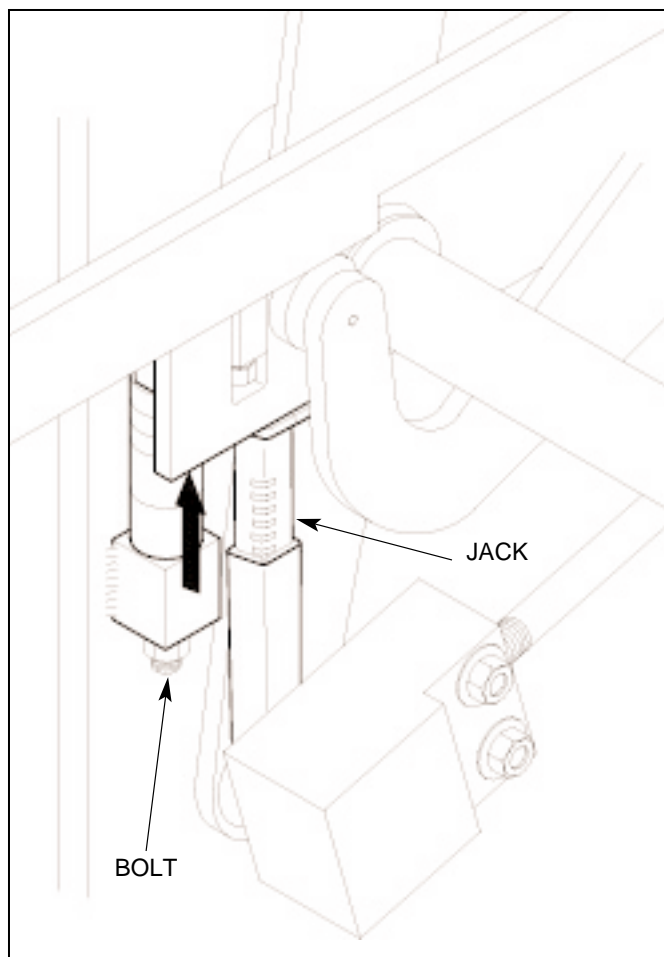

Figure 4.30 MEASURING COLUMN OF SPACERS
- 4.2.21 Loosen bolt of column spacers at all four corners (see figure 4.30).
- 4.2.22 Use a jack on all four corners to raise frame. Take spacers out on all corners (see figure 4.30).
- 4.2.23 Now, insert a column of spacers **8 3/4" [222mm]** high between the side frame supports and the pallet feeder supports (see figure 4.30).